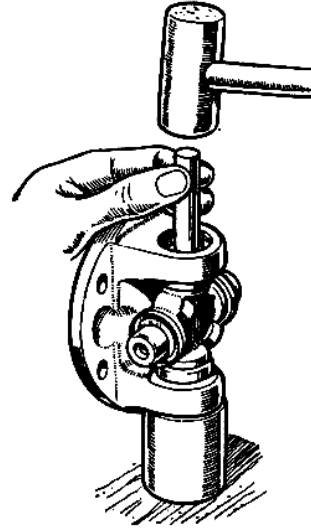

Fig. D-5—
8. Rest the flange yoke on a short piece of tubing of suitable diameter (slightly larger than the bearing race) and drive out the two remaining bearings, using a brass drift Fig. D-5).